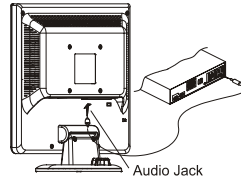

Figure 1-7
1. Connect the audio cable to the "LINE OUT " jack on your PC's audio card or to the front panel's "AUDIO OUT" jack of your CD ROM drive. (See Fig. 1-7)